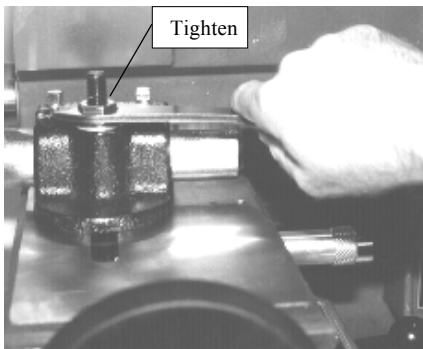

Figure 17
3. Move cross slide to its innermost position and then back off by turning dial wheel five turns (about 1/2") counterclockwise. Loosen nut and adjust tool post holder, tool bar, and cutter assembly to approximate drum diameter. Tighten nut and leave feed shift lever in neutral (N) position. See Figure 17.